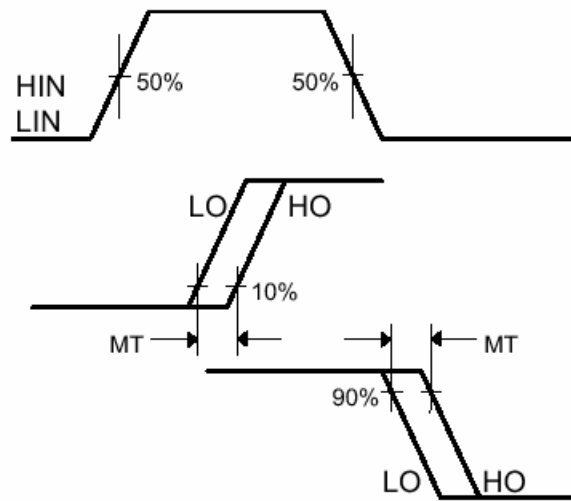

Fig. 2: Delay Matching Waveforms definition.
- dV_S/dt – *Allowable offset supply voltage transient*: The maximum rate at which the voltage at the V_S pin can change is 50 V/ns. This high degree of tolerance makes the IC robust, and ensures excellent device performance in demanding applications such as motor drives, switching power supplies, etc. The dV_S/dt capability is measured as per the test set up shown in Fig. 2 of the datasheet.